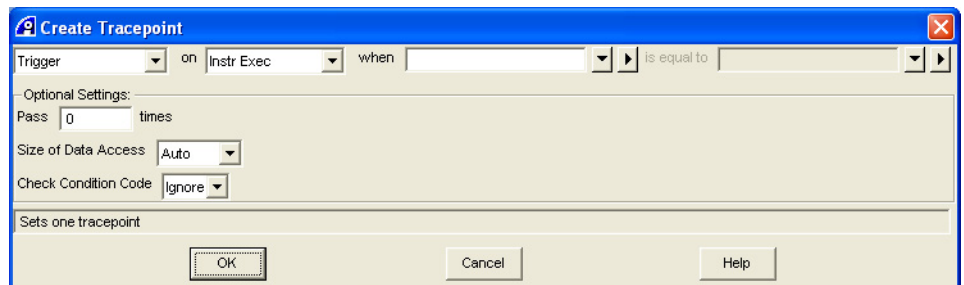

Figure 10-83 Create Tracepoint dialog box
- a. Select **Debug** → **Tracepoints** → **Create Tracepoint...** from the Code window main menu to open the Create Tracepoint dialog box. Figure 10-83 shows an example: